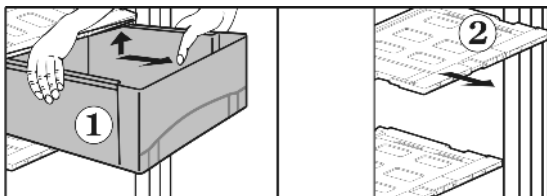

Fig. 13
- ▶ Pull out drawers *Fig. 13 (1)* to the limit.
- ▶ Disengage drawer cover *Fig. 13 (2)* with humidity controller of removed drawers by lifting and draw it forwards for removal.